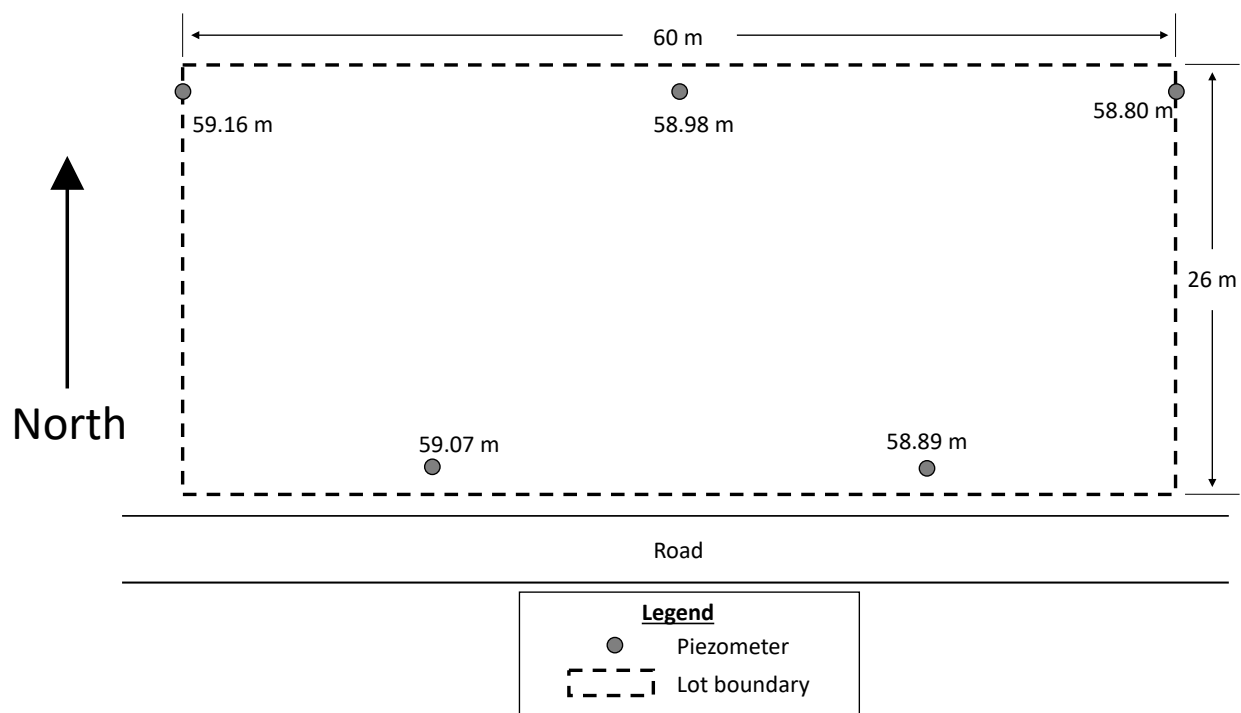

Figure 5: Piezometric map for question 5 with the hydraulic head values for each piezometer.
Figure 5 shows the hydraulic heads that were obtained with a series of piezometers installed on a contaminated site with a thick (> 10 m) unconfined aquifer. The ground surface has a gentle slope with a decreasing surface elevation toward the east. The unconfined aquifer is a relatively uniform sand with a hydraulic conductivity of 2×10^{-4} m/s.
- Draw four equipotential lines corresponding to hydraulic head values of 59.1, 59.0, 58.9 and 58.8 m, and one flow line on Figure 5 (10 points).
- Estimate the time needed for a contaminant or a conservative tracer to move across the lot outlined on Figure 5 along a flow line (10 points)